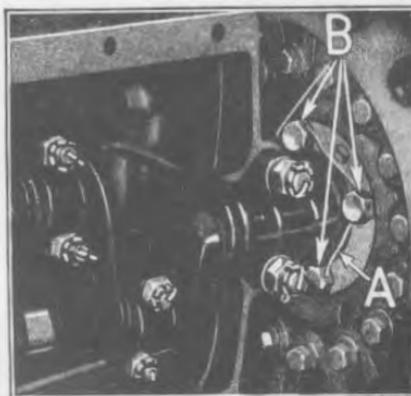

Fig. 135
- 205 Disconnect transmission from engine by breaking wire (See "A" Fig. 135), and running out the four flywheel cap screws "B".